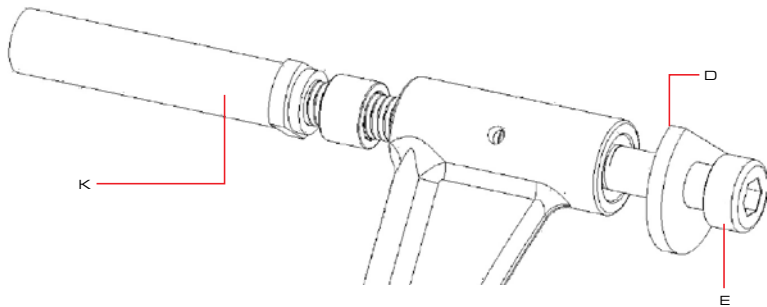

Fig.9
3. Hold the nut with an open wrench and turn the bolt with an Allen key. The 19mm bearing tool should push the bearing smoothly into the link. Do not forget the small spacer that fits between the 2 bearings (pictured below, also item #25 in Fig. 9).
5. To press fresh Needle Bearings into the Equilink, orient the tools as seen in Fig. 9. Tighten the bolt until the Flange on the EQ Bearing Press (K) touches the Equilink. The tool is designed to set the Bearings to the correct depth inside the Equilink. Repeat for all 4 Equilink Needle Bearings.